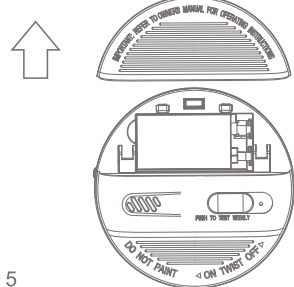

Figure 5
- When smoke alarms have low battery warning, please replace the battery immediately (as Figure 5). During replacement, mind the positive and negative polarity markings and use 9V batteries. Using improper battery may cause damage to the alarm.